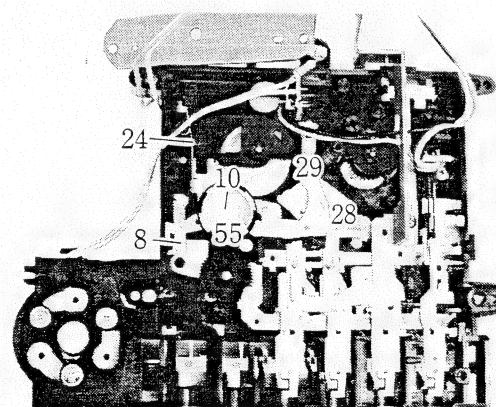

Figure 28.
6. Remove 24, 29 and 28. Remove 55 after removing 10 securing 55. (Fig. 28)